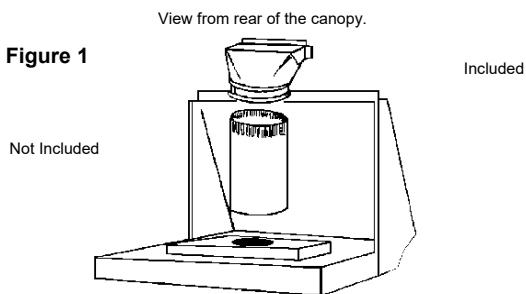

Figure 1:
1. Line up powered liner to underside of cabinet or canopy. If unable to drill directly into cabinet or canopy, use 4" x 11-1/4" x 3/4" wood blocks (Figure 1) on the inside of canopy, left and right side and secure with screws.
(FIGURE 1)